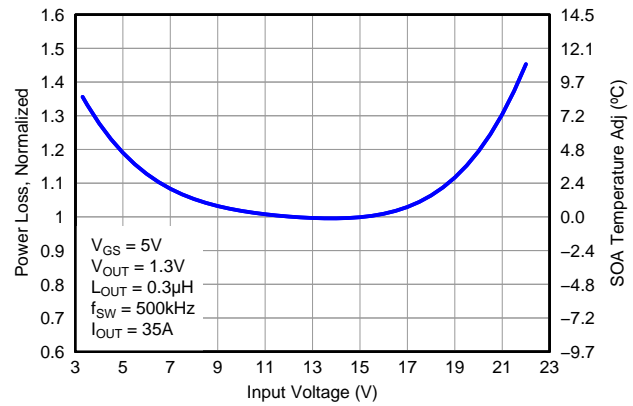

Figure 7. Normalized Power Loss vs Input Voltage
- Normalized power loss for input voltage ≈ 1.07 (Figure 7)
- SOA adjustment for input voltage $\approx 2^\circ\text{C}$ (Figure 7)